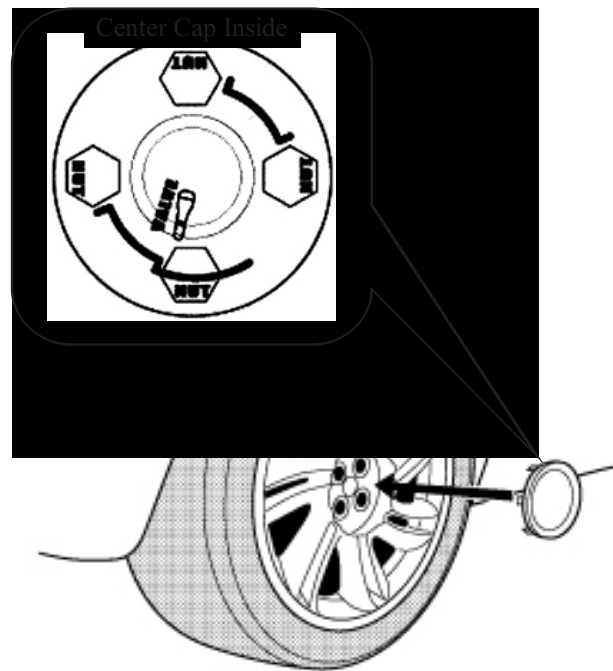

Fig. F-1
- ⚠ 1. Install center caps on wheels. Gently push cap into wheel until cap snaps into place. Ensure that center cap clip is corrected located adjacent to valve stem as shown. (Fig. F-1).